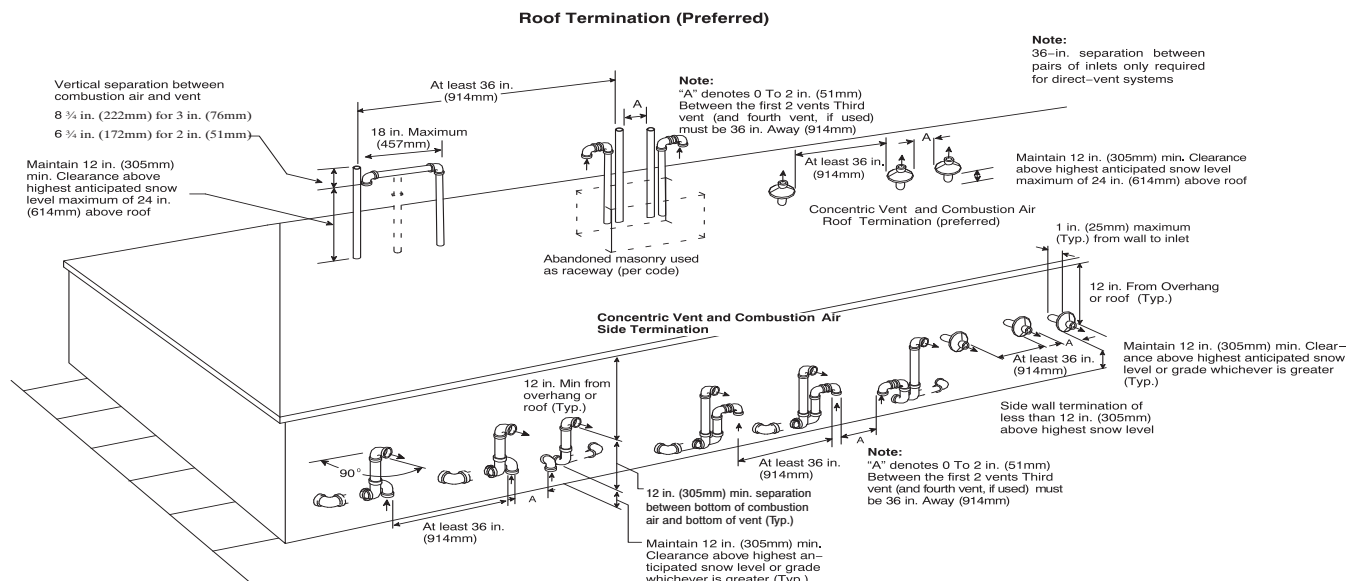
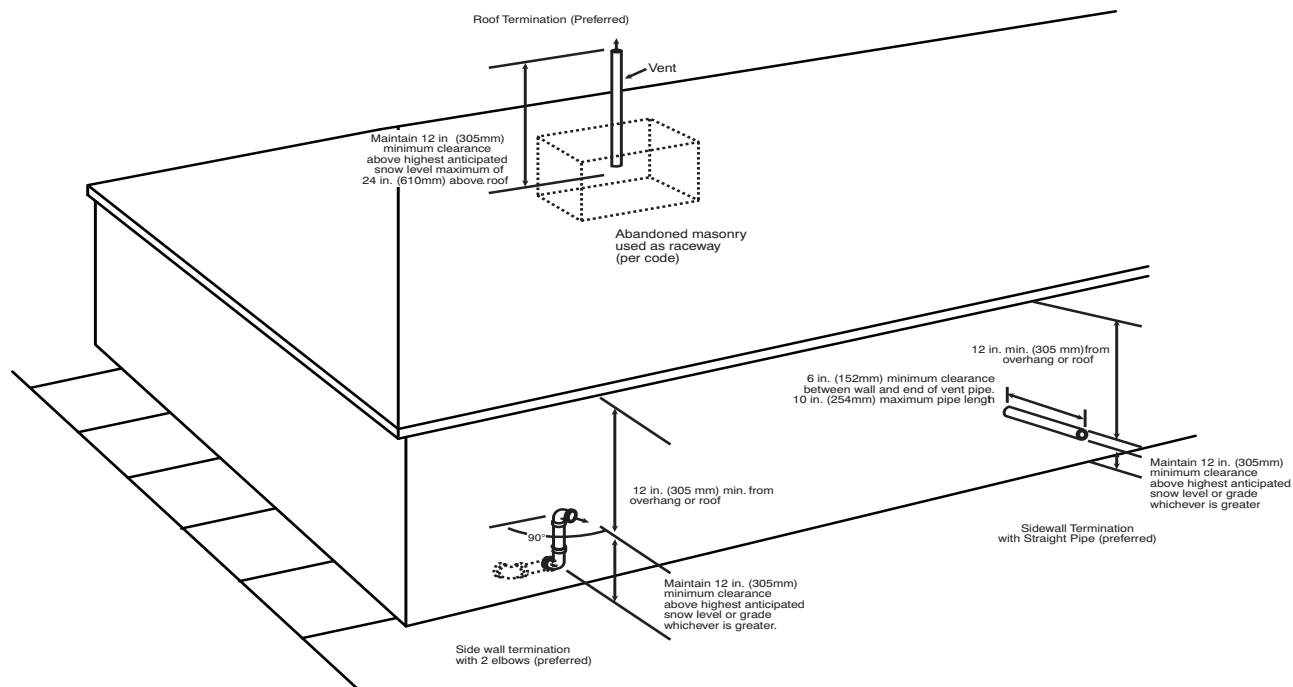
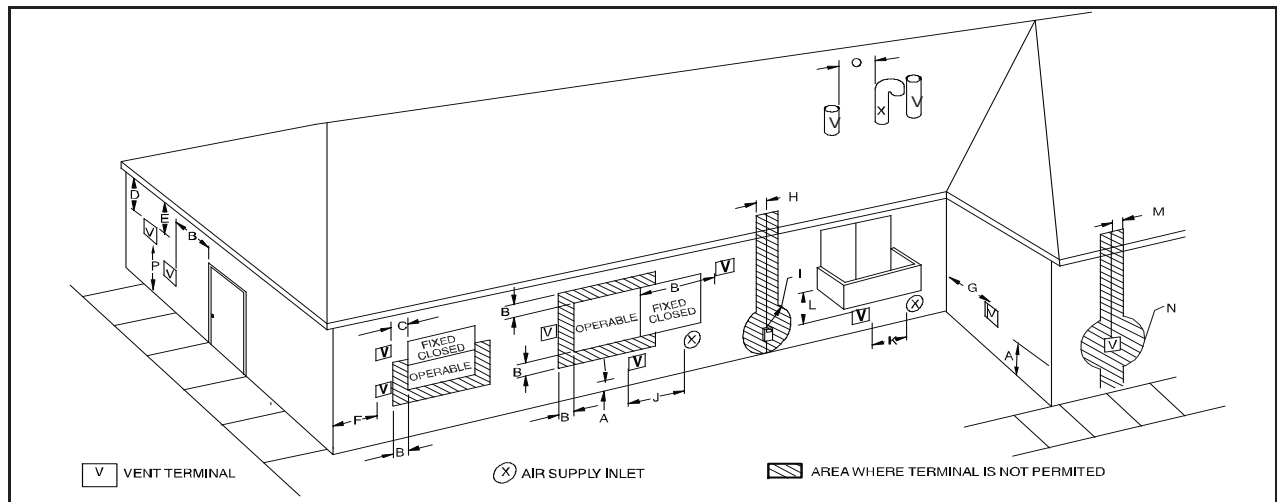
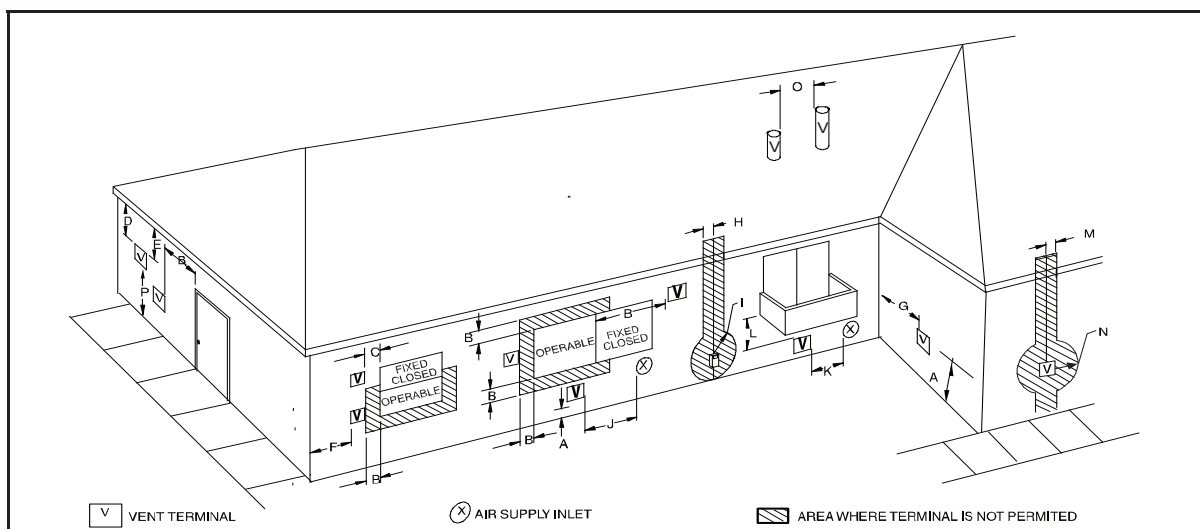

Fig. 40 – Combustion Air and Vent Pipe Termination for Direct Vent (2-Pipe) System
Fig. 41 – Vent Pipe Termination for Non-Direct Vent and Ventilated Combustion Air System
Fig. 42 – Direct Vent Termination Clearance
Fig. 43 – Vented Combustion Air and Non-Direct Vent Termination Clearance
An abandoned masonry chimney may be used as a raceway for properly insulated and supported combustion-air (when applicable) and vent pipes. Each furnace must have its own set of combustion-air and vent pipes and be terminated individually, as shown in Fig. 40 for Direct Vent (2-Pipe) system, or Fig. 41 for single-pipe or ventilated combustion air option.
In a direct-vent (2-pipe) system, all air for combustion is taken directly from outdoor atmosphere, and all flue products are discharged to outdoor atmosphere. Combustion-air and vent pipes must terminate together in the same atmospheric pressure zone, either through the roof (preferred) or a sidewall. See Fig. 42 for references to clearances required by National code authorities.
In a ventilated combustion air option, the vent terminates and discharges the flue products directly to the outdoors similar to a direct vent system. See Fig. 43 for references to clearances required by National code authorities.
In a non direct-vent (1-pipe) system, all air for combustion is taken from the area adjacent to furnace, and all flue products are discharged to outdoor atmosphere. Air for combustion must be supplied as described in the Air For Combustion and Ventilation Section. Do not use an abandoned chimney to supply outside air to the furnace. See Fig. 43 for references to vent clearances required by National code authorities.
For vent termination clearance, references to National codes are shown in Fig. 42 for Direct Vent/2-Pipe system and Fig. 43 for Ventilated Combustion Air/Non-direct Vent/1-Pipe system. For exterior termination arrangements, refer to Fig. 40 for Direct Vent/2-Pipe system and Fig. 41 for Ventilated Combustion Air/Non-Direct/1-Pipe system. Contact Local code authorities for other requirements to and/or exemptions from the National codes shown in the figures.
1. Comply with all clearance requirements stated in Fig. 42 or Fig. 43 per application.
Direct vent (2-pipe) vent and combustion air pipes must terminate outside the structure. See Fig. 42 For references to vent clearances required by National code authorities. Allowable vent and combustion air terminations are shown in Fig. 40.
The vent pipe for a Non Direct Vent (1-pipe) system must terminate outdoors. See Fig. 43 for references to vent clearances required by National Code authorities. Allowable vent terminations are shown in Fig. 41.